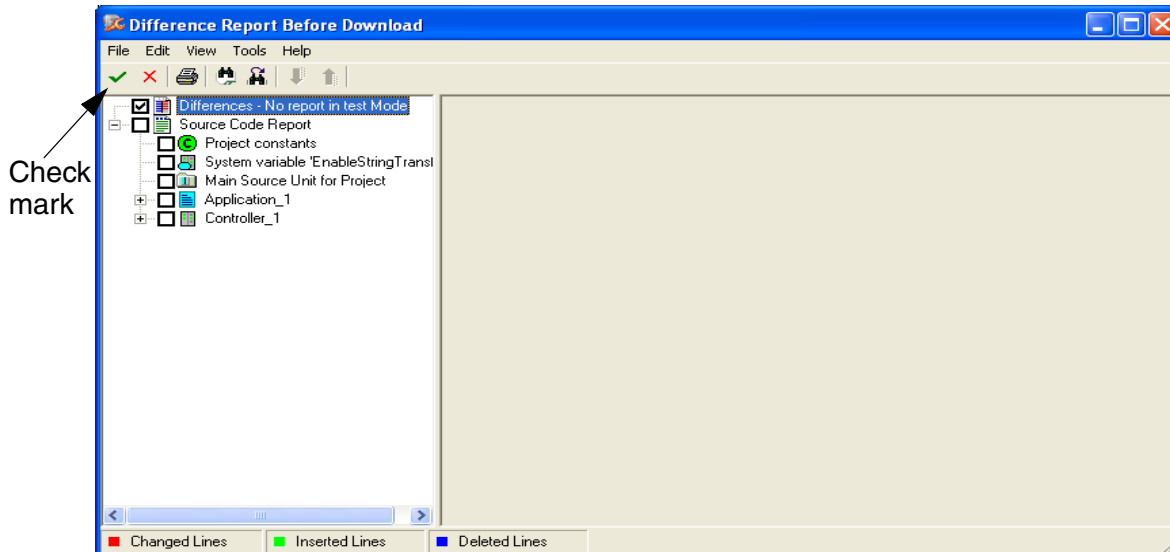

Figure 37. Difference Report Window
4. Select the green check mark (see Figure 37) to continue. Difference Report is not generated in Test mode.